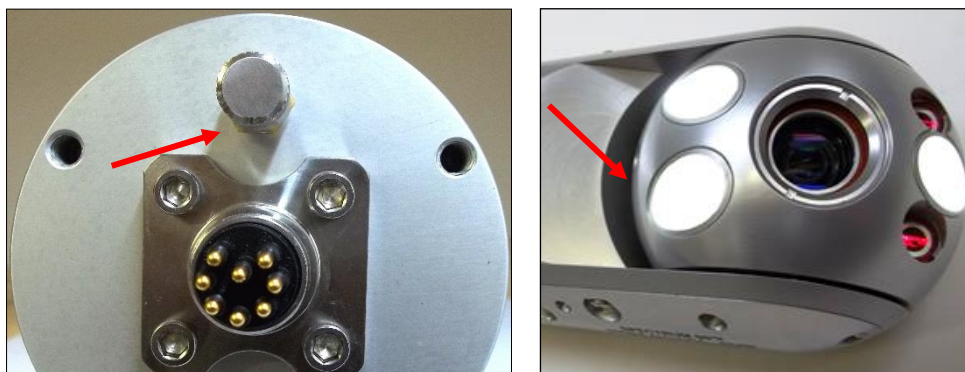

FIGURE 8: SCHRADER VALVE CAP AND PURGING SEAL SCREW LOCATION
1. Remove the seal screw from the camera's left side plate illustrated in Figure 8.